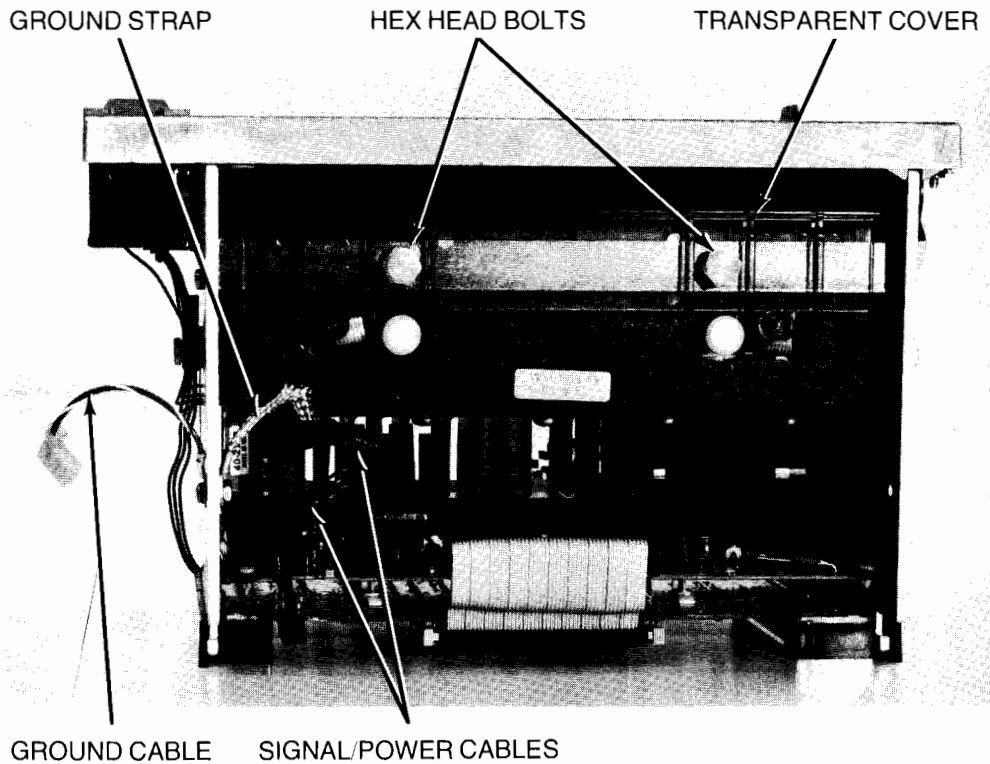

Figure 4-36. Disassembling Printer
3. From front of printer, completely remove two signal/power cables (Figure 4-36).
4. Remove #2 Pozidriv screw, washer, and nut that attach ground cable and strap to side of printer and remove ground cable (Figure 4-36).
5. Remove two 7/16-inch hex head bolts and associated springs that attach transparent cover to printer (Figure 4-36), and remove transparent cover (Figure 4-37).
3. From front of printer, disconnect two signal/power cables, one from each board (Figure 4-36).